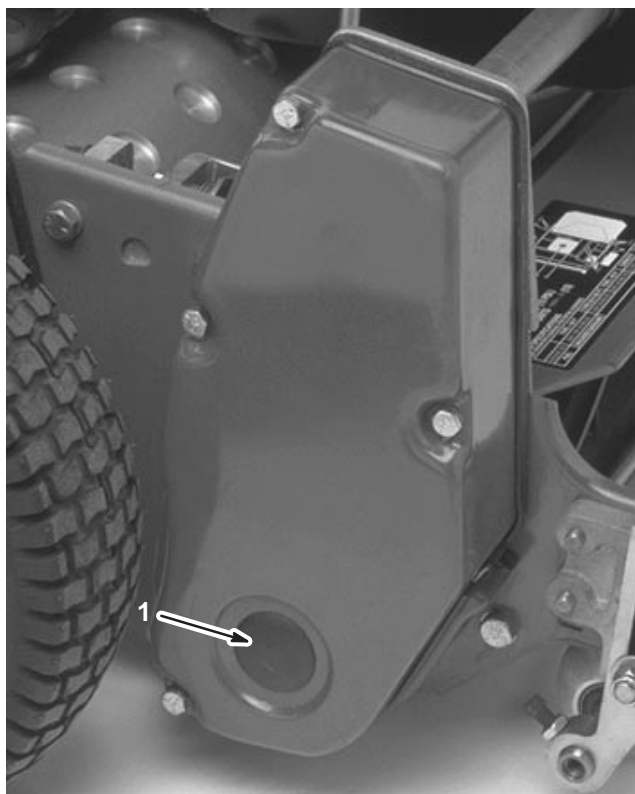

Figure 46
1. Remove the plug in the right reel drive cover (Fig. 46).